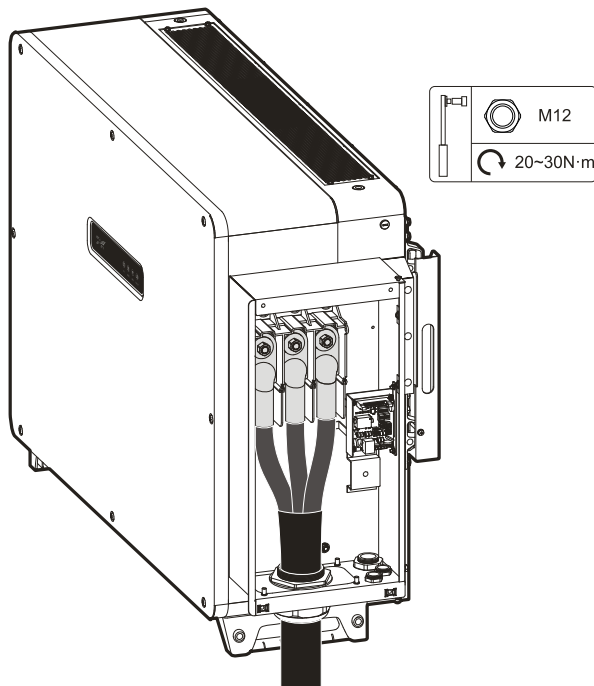

Figure3-32 Connect the AC output cable
Step 2 Loosen the external forced cable fixing head of AC terminal, lead the L1, L2, L3 wires go through the external forced cable fixing head, and use a wire stripper to strip the L1, L2 and L3 respectively, and crimp them to the terminal, and then connect to the AC output terminal block, as shown in Figure3-32.